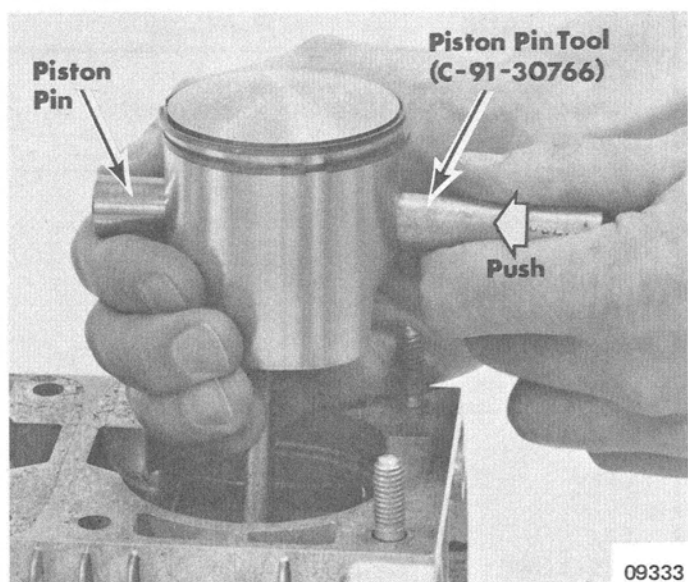

Figure 11. Piston Pin Removal
4. Remove piston pins with Piston Pin Tool (C-91-30766A1). (Figure 11) Remove pistons from connecting rods and reinsert piston pins into respective pistons.